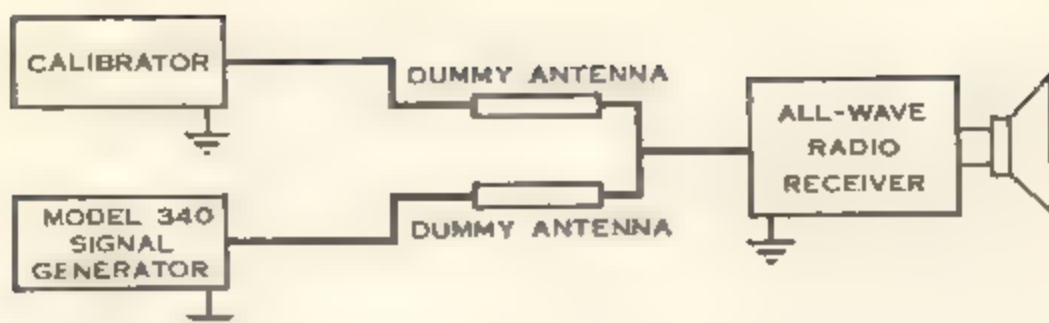

Figure 12 Block Diagram Showing Method of Calibration of Model 340
1. Connect the calibrator and Model 340 Signal Generator to the antenna terminal of the radio receiver through dummy antennas as shown in Figure 12. Details of dummy antennas are shown in Figure 2.